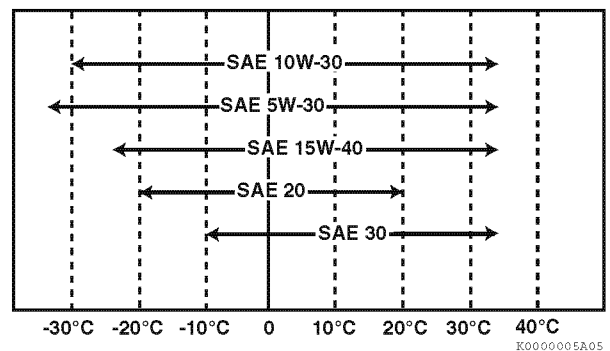

Figure 4-20
- Select the oil viscosity based on the ambient temperature where the engine is being operated. See the SAE service grade viscosity chart (Figure 4-20).
Select the appropriate engine oil viscosity based on the ambient temperature and use the SAE service grade viscosity chart in Figure 4-20.